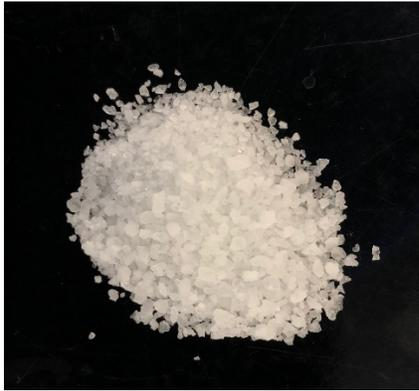

Figure 4. Dry Powder.
- Dry (or Powder) Polymer (see Figure 4):